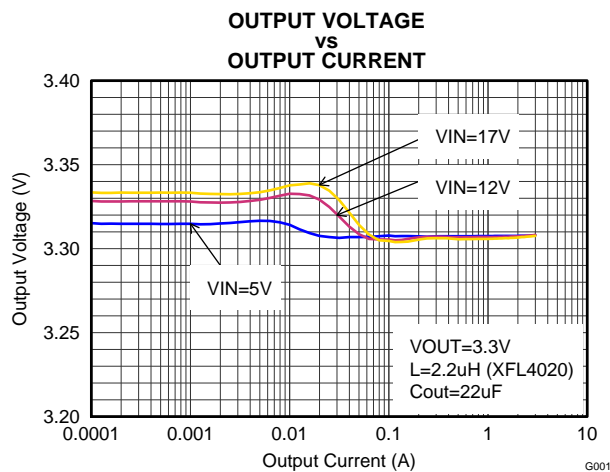
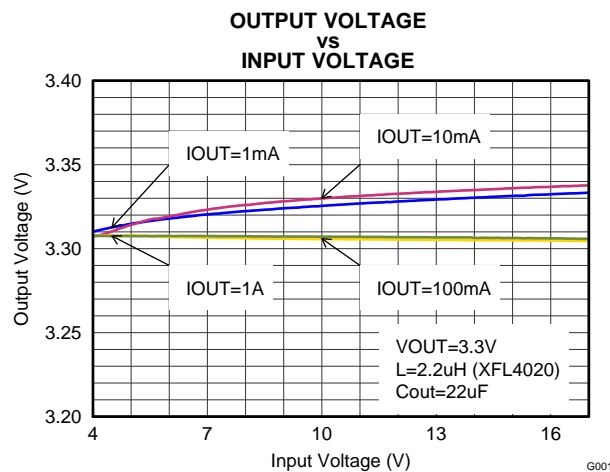

Figure 16. Output Voltage Accuracy (Load Regulation)
Figure 17. Output Voltage Accuracy (Line Regulation)
(4) This is the voltage regulated at the FB pin.
(5) This is the accuracy provided by the device itself (line and load regulation effects are not included).
(6) Line and load regulation depend on external component selection and layout (see Figure 16 and Figure 17).